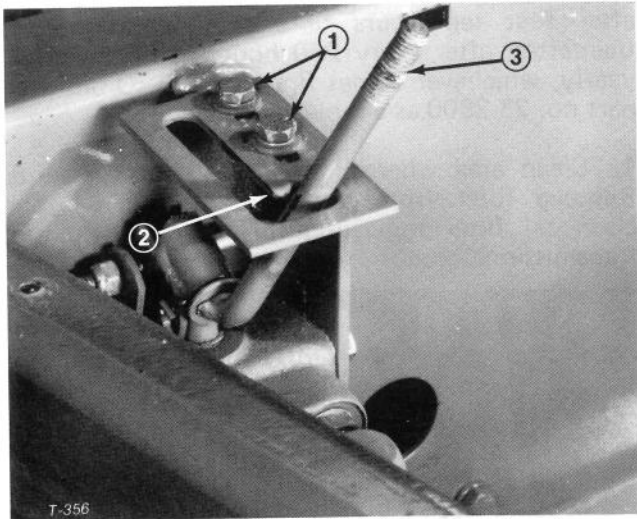

Figure 59
3. Loosen two capscrews on top of the lift lever latch (Fig. 59). Place lever on rounded tip of latch (Fig. 59), and slide latch w/lever forward until stopping resistance is felt. Then tighten the capscrews to lock the latch in place. Check for free operation of the lift lever by moving lever from RAISE or TRANSPORT to FLOAT position. Lift lever should just clear rounded portion of latch as lever is moved into FLOAT position.